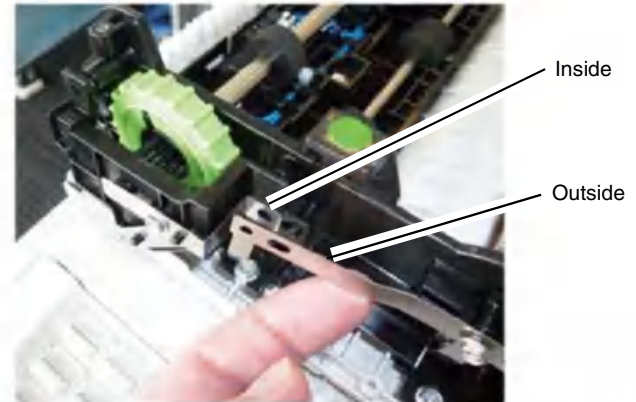

Figure 10 Ground plate installation
- Install the front bracket and ground roll plate as shown in Figure 10.